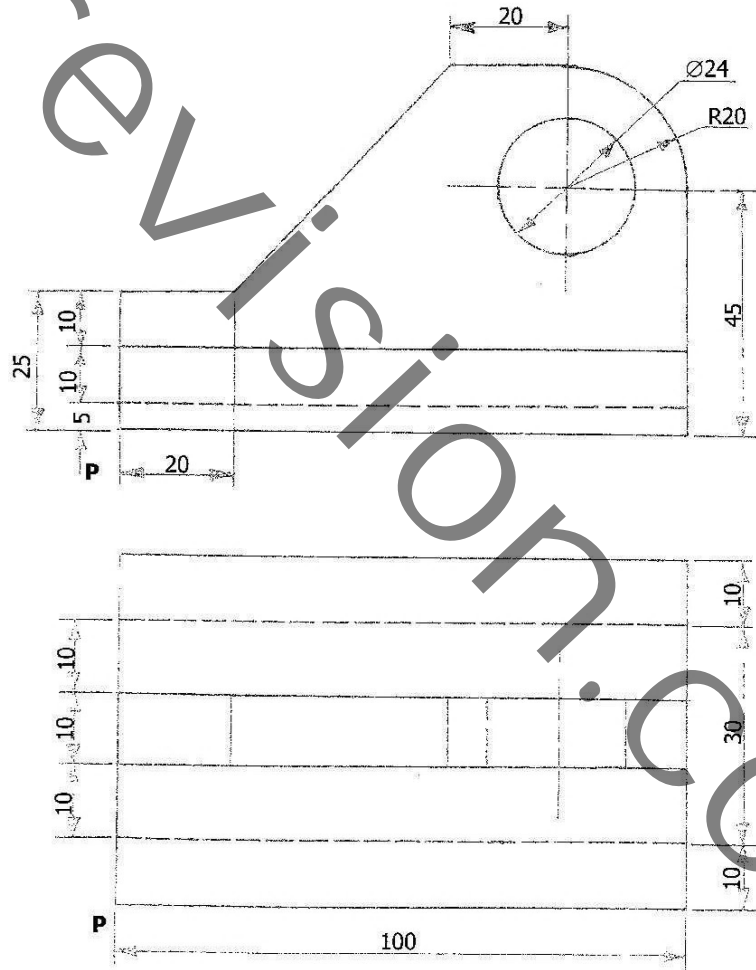

Figure 1
**1** **Figure 1** shows a **CASTING BRACKET** in first angle projection. Make a freehand pictorial sketch of this component – approximately full size with **P** as the lowest point in the foreground.